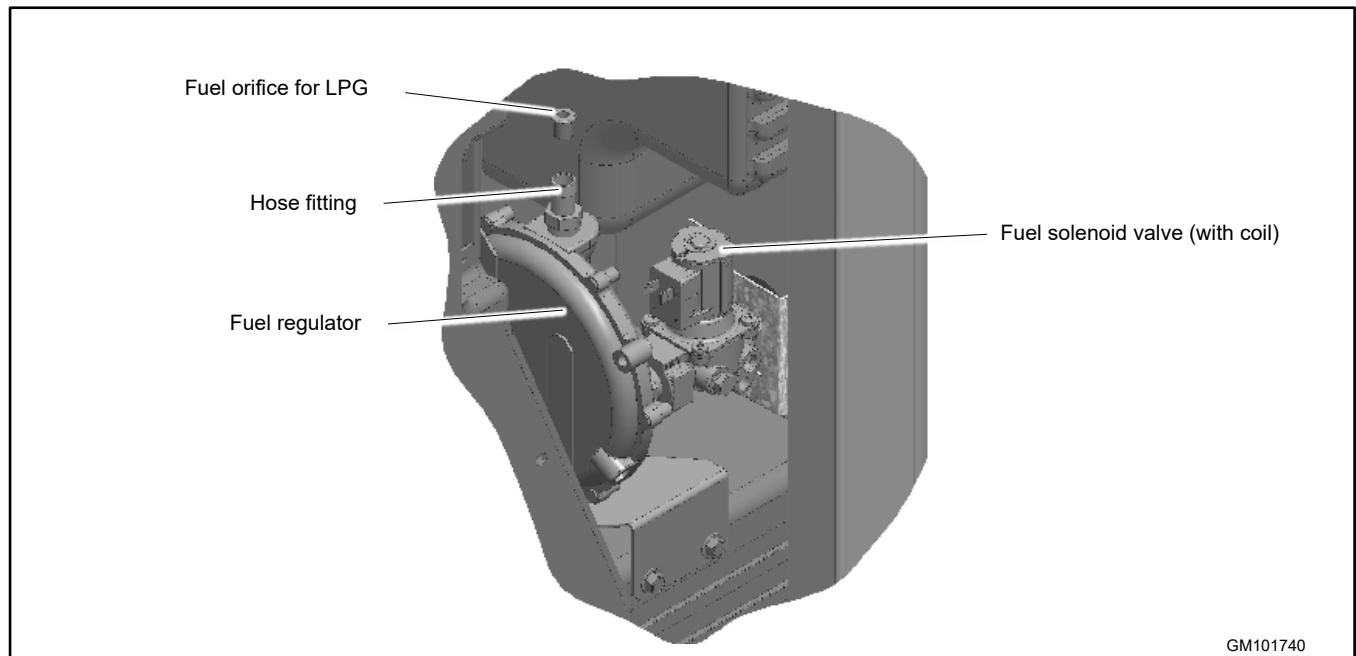

Figure 15 Fuel Regulator and LPG Orifice, 20RCA(L)
For LPG fuel, an orifice is used in the fuel line. The unit is typically shipped set up for natural gas, with the loose orifice tied near the fuel solenoid valve. To convert to LPG, install the LPG orifice as described below. See Figure 15 for the fuel system component locations.
5. Remove the hose clamp and fuel hose from the hose fitting. See Figure 15.
6. Insert the LPG orifice into the hose fitting. See Figure 15.